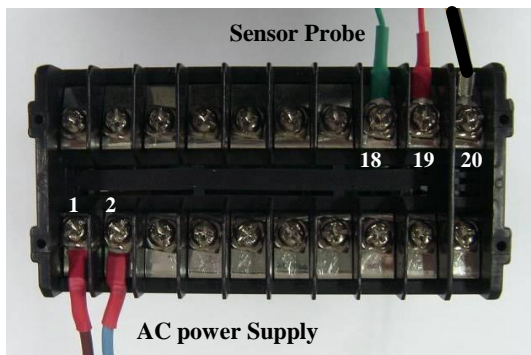

Fig 6. Connect diagram of MG-05
- a. Connect AC power Terminal #1 and #2 and connect Sensor cable to terminal #18 (Green wire) #19 (Red wire) #20 (Black wire). Please refer to Fig 6.